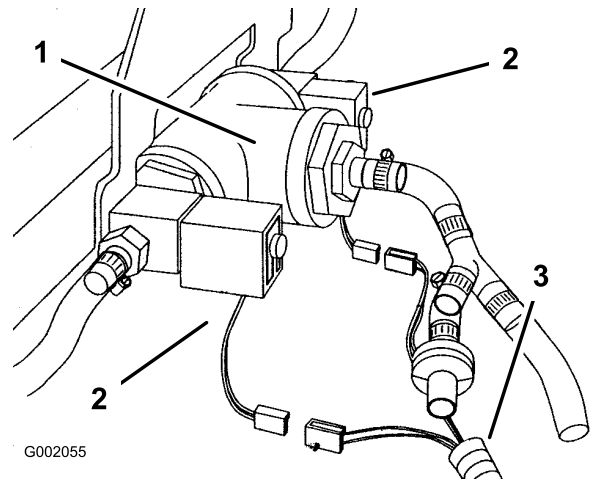

Figure 18
- At the rear of the machine, plug the harness connectors into the boom solenoid assemblies. Plug the connector with the blue wire to the right solenoid; plug the connector with the orange wire to the left solenoid (Figure 18).